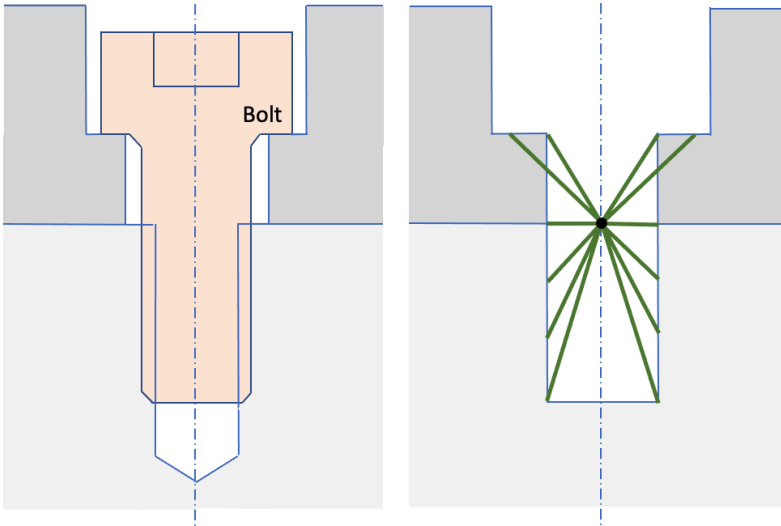

Figure 3. Example before and after of the Reduce Bolt Spider Countersink command
3. **countersink**: Shown in figure 3., similar to the **j2g** option, however beam elements are also generated connecting the outer radius of bolt with the center rebar node.